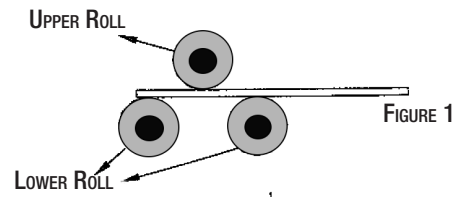

FIGURE 1
2. Place the material onto the machine's rolling area. Ensure that the material is securely positioned and aligned between the top and lower rollers. (Figure 1)